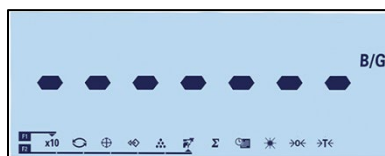

Figure 2-22: Display Indicating Weight Value Collection in Progress
1. Put the animal/s on the platform, then press the "animal weighing" function key . While the terminal collects weight values, "-----" is displayed (Figure 2-22). The process takes 2 to 3 seconds. In order to achieve better precision, the first 14 weight values are discarded, and the next 56 values collected for use in the calculation.